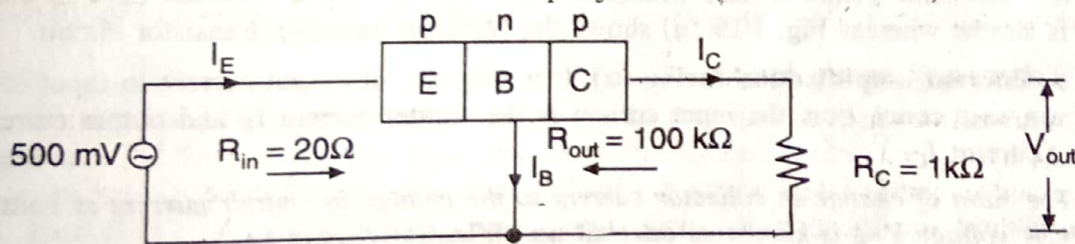

Fig. 10.8
*Fig. 10.8 shows the conditions of the problem. Note that output resistance is very high as compared to input resistance. This is not surprising because input junction (base to emitter) of the transistor is forward biased while the output junction (base to collector) is reverse biased.